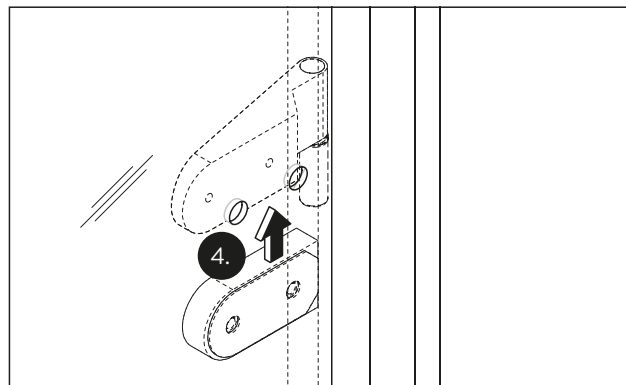

Abb. 22 Positioning the lining section
- Position the lining sections on the hinge side between the glass door panel and the frame pivots (Fig. 22).